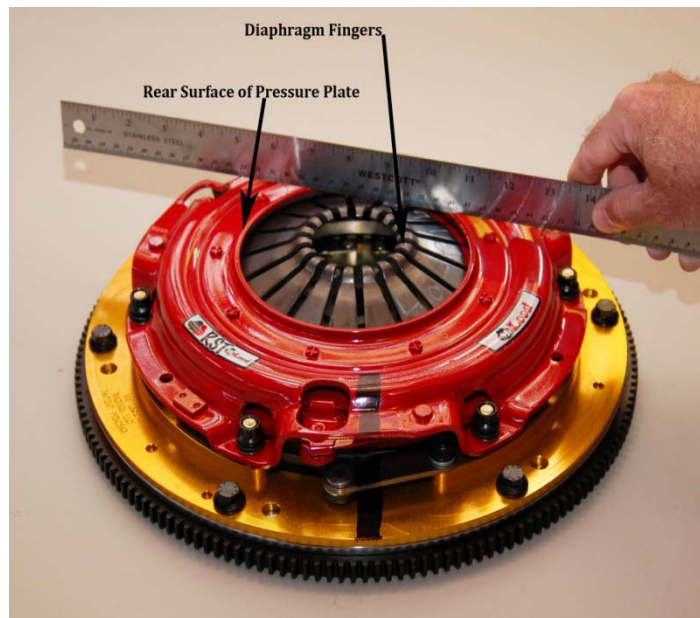

Figure 7
- 12) Check diaphragm finger height at this time by placing a straight edge onto the pressure plate across the finger opening. All of the fingers should be below the rear surface of the pressure plate. Figure 7.